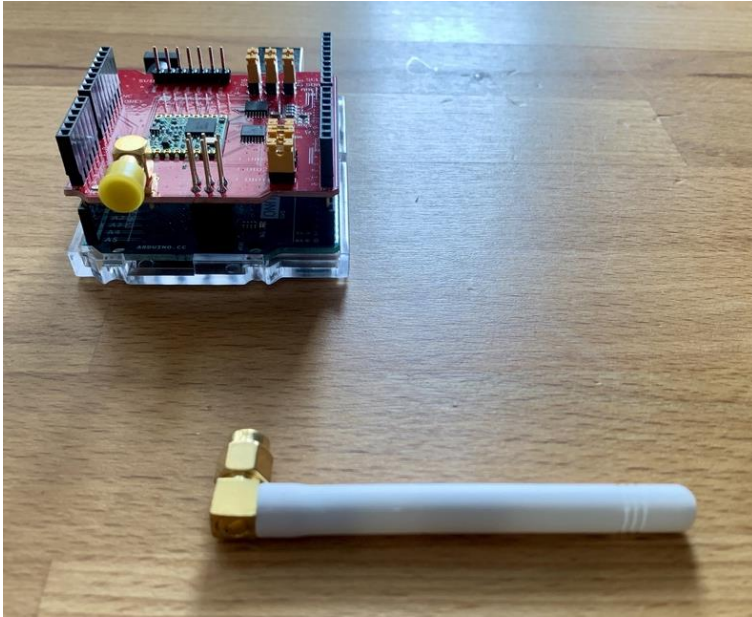

Figure 6: Assembled Arduino and shield, with antenna
3. Attach the antenna to the shield, screwing it in clockwise (Figure 6).